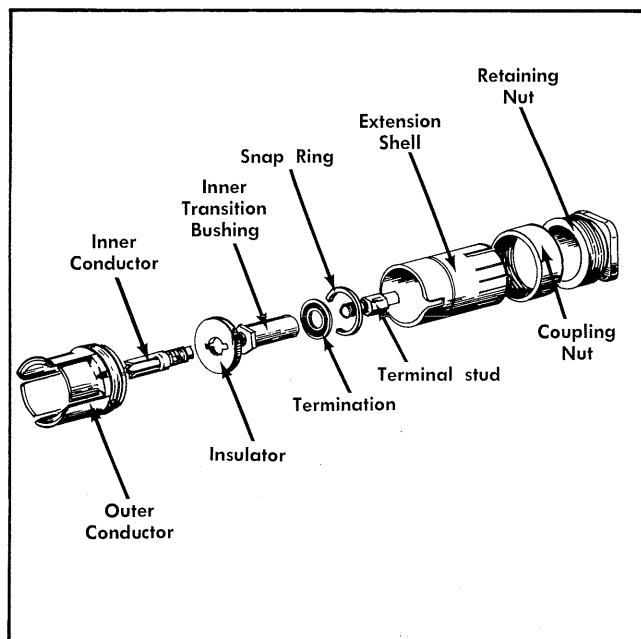

Fig. 4-4. Exploded view of + and - Output connectors.
**Connector Repair or Termination Replacement.** Use the following procedure to repair the connector or replace the termination. Fig. 4-4 shows the connector and its parts.